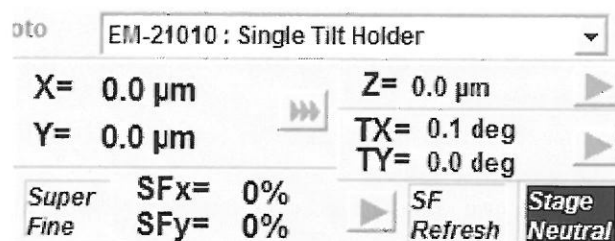

Fig. 5.9 Holder Select window
2. Double click on the **Stage Neutral** button on the right main window of the TEM Controller (Fig. 5.9).